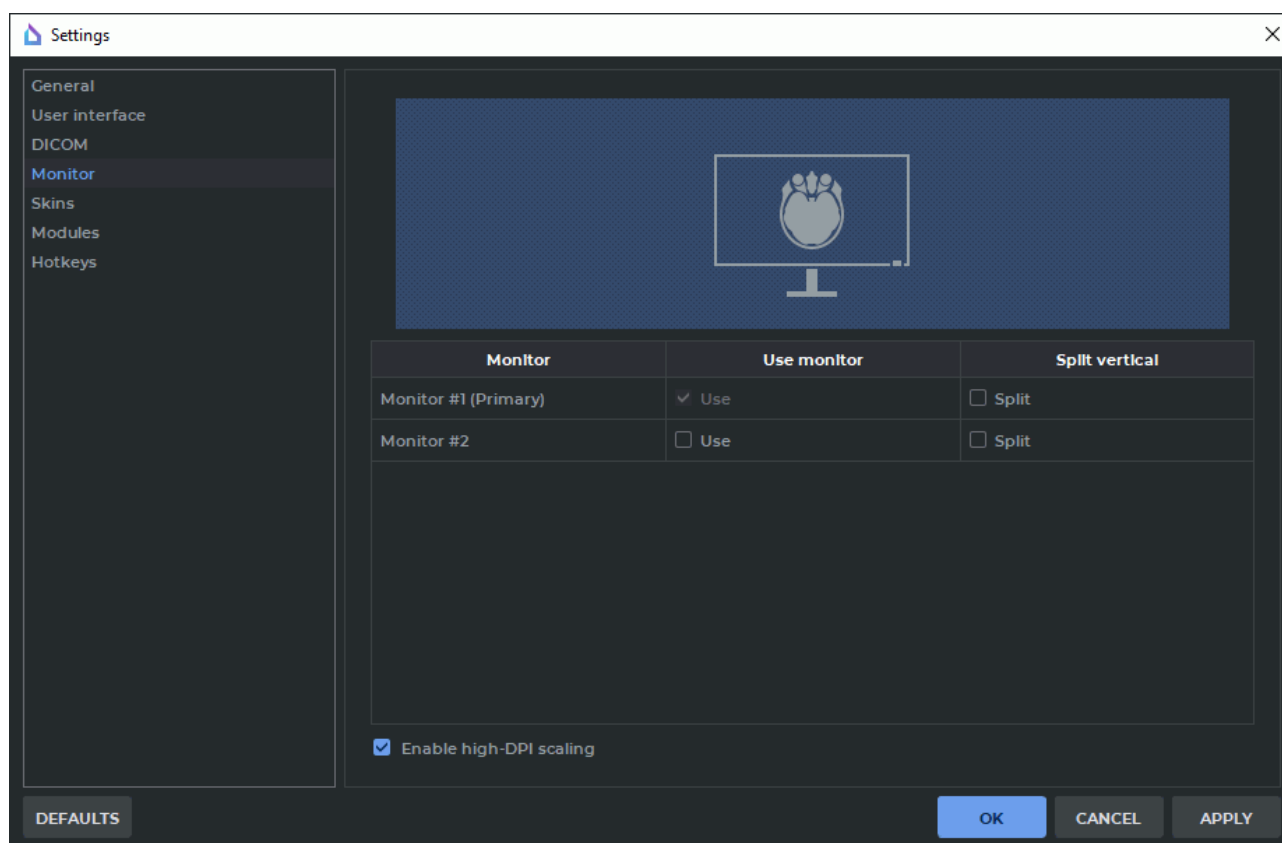

Figure 15.2: Monitor settings
2. Open the **Monitor** section. The window similar to the one shown in Fig. 15.2 will pop up.